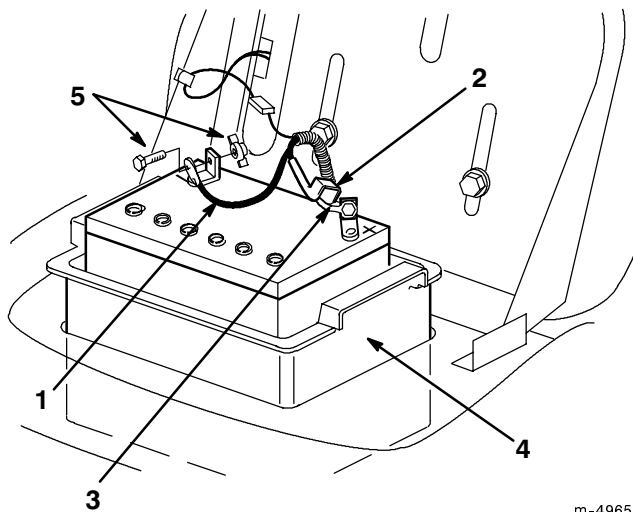

Figure 18
3. Disconnect the negative (black) ground cable from the battery post (Fig. 18).
4. Slide the rubber cover up the positive (red) cable. Disconnect the positive (red) cable from the battery post (Fig. 18).
1. Put the battery into the battery box and install it into the chassis (Fig. 18).
2. Using the bolt and wing nut, connect the positive (red) cable to the positive (+) battery post (Fig. 18). Slide the rubber cover over the battery post.
3. Using the bolt and wing nut, connect the negative (black) cable to the negative (-) battery post (Fig. 18).